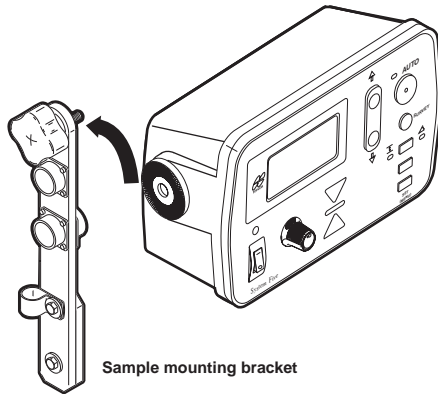

Figure 1-11. Mounting Control Box
6. Attach the Control Box to a mounting bracket (Figure 1-11).